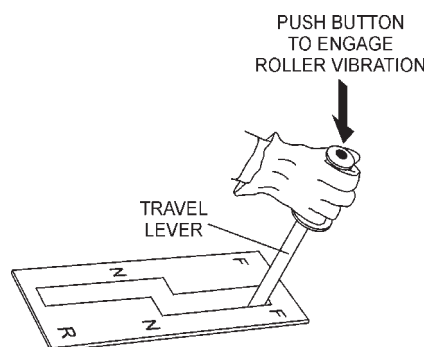

Figure 23. Vibration Pushbutton Switch
1. To begin the vibratory action, **press** the vibratory pushbutton switch located on top of the travel lever as shown in Figure 23. The pressing of this switch will generate 3,100 lbs. (1,406 Kg.) of centrifugal force at a frequency of 4000 vpm (vibrations per minute) to the **front** drum.